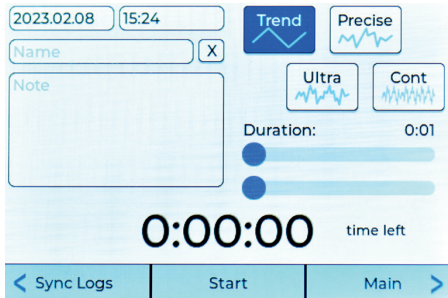

Figure 25
4. Select the 'Sync Logs' option (see Figure 25).